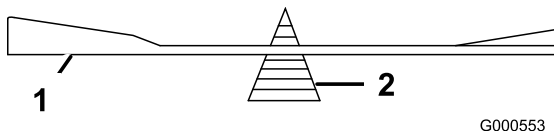

Figure 57
- Check the balance of the blade by putting it on a blade balancer (Figure 57).